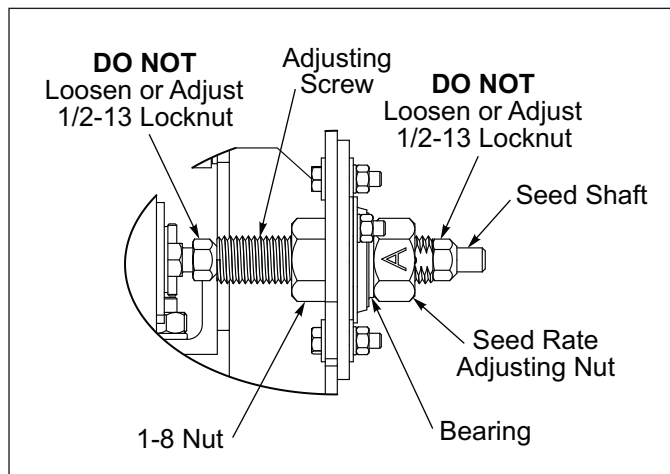

Figure 2-53: Front Box Seed Rate Adjuster
6. Remove Seed Shaft Seed Rate Adjusting Nut. Do Not loosen 1/2-13 Locknuts at the end of the Seed Rate Adjusting Screw. **See Figure 2-53.**